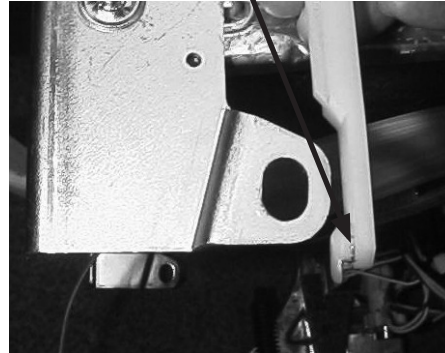

FIGURE 38
2. Raise spring support rod out of mounting hole of "C" arm. (See Figure 38)